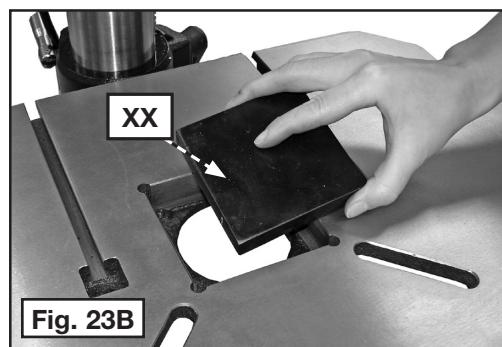

Fig. 23B
The drill press table comes with an insert (XX) Fig. 23B made of MDF to help prevent wear and tear on the bit when it drills down through the workpiece.
2. Remove old insert and place your new insert into the table (Fig. 23B).